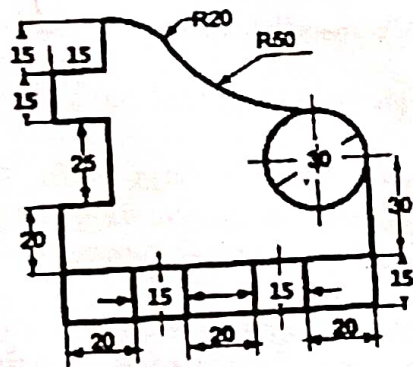

FIG. 2
6. Read the dimensioned drawing shown in fig.2. Redraw the figure to full size and dimension as per Indian standards.